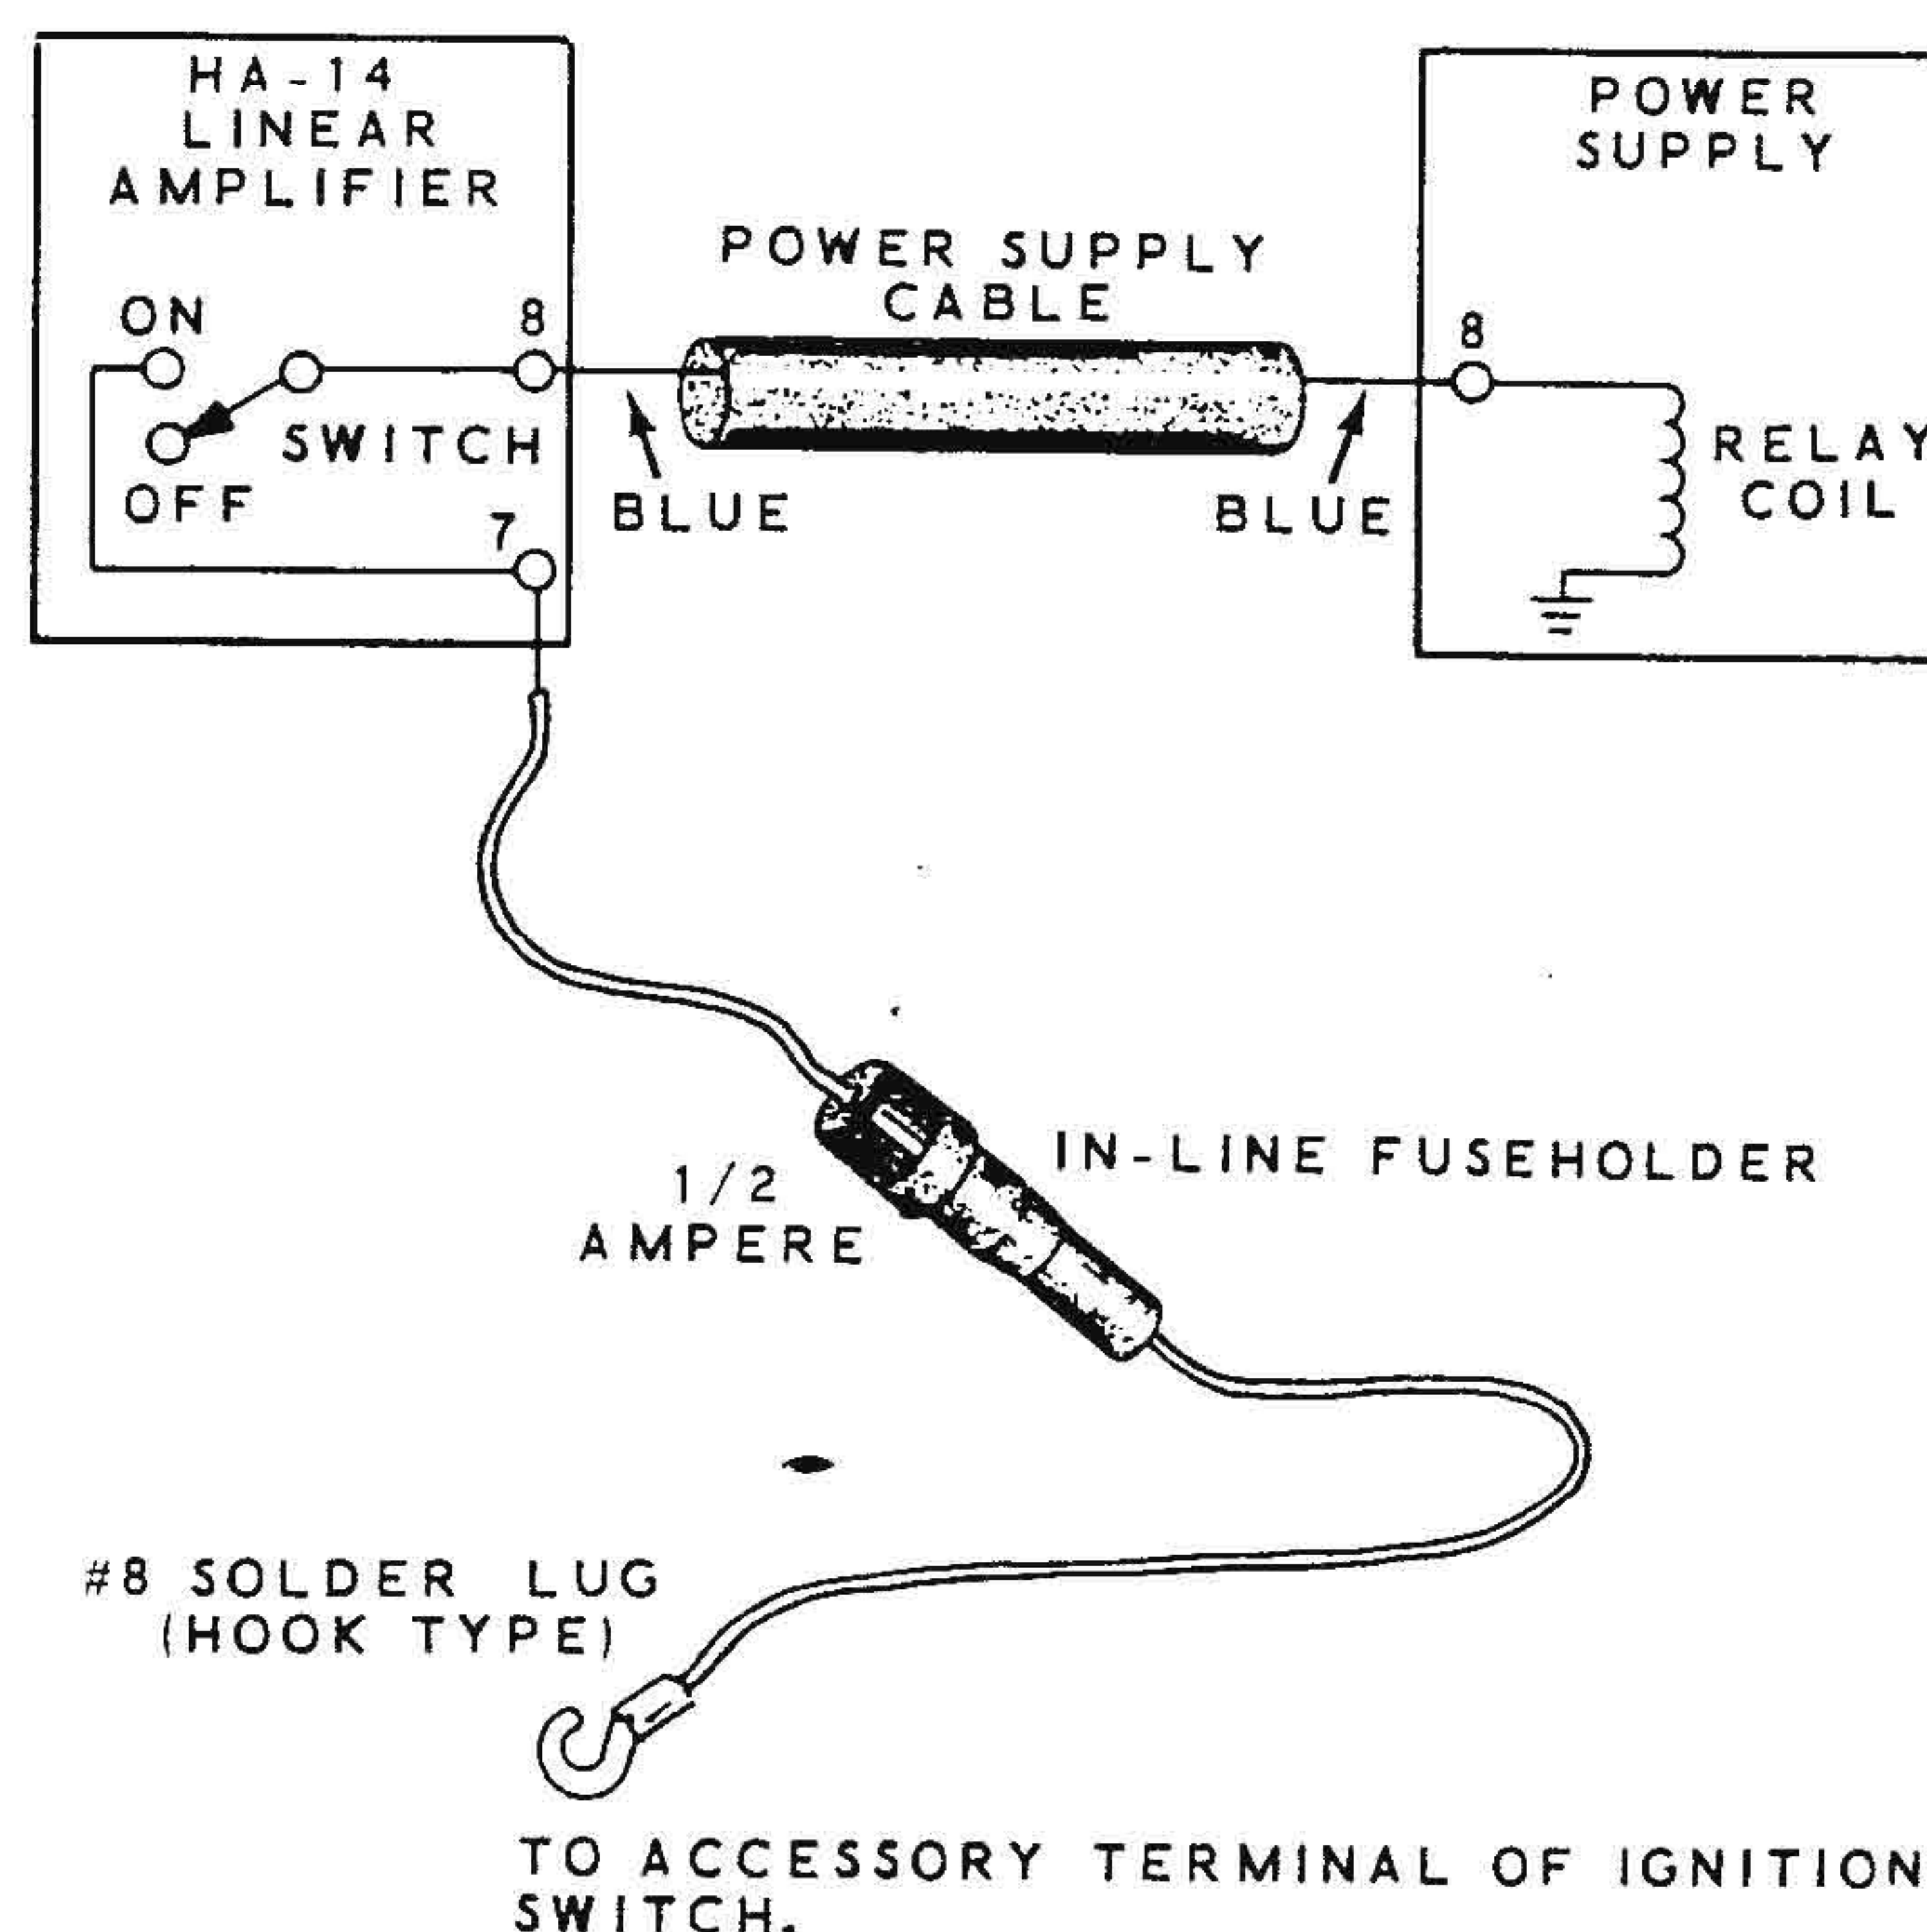

Figure 4
- ( ) The in-line fuseholder is wired to the free end of the 8-wire cable. The wiring of this end of the cable is covered in the HA-14 Linear Amplifier Manual. Figure 4 shows how the switching circuit of the Power Supply is wired to the Linear Amplifier and through the fuseholder to the ignition switch.